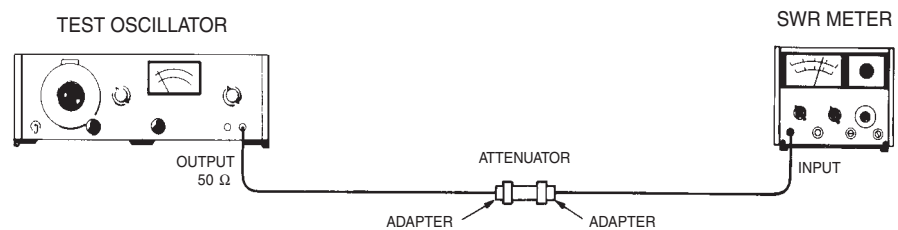

Figure 1 Equipment Setup Using Oscillator and SWR Meter
1. Connect the equipment as shown in the Figure 1 except remove the attenuator and connect the adapters directly together.